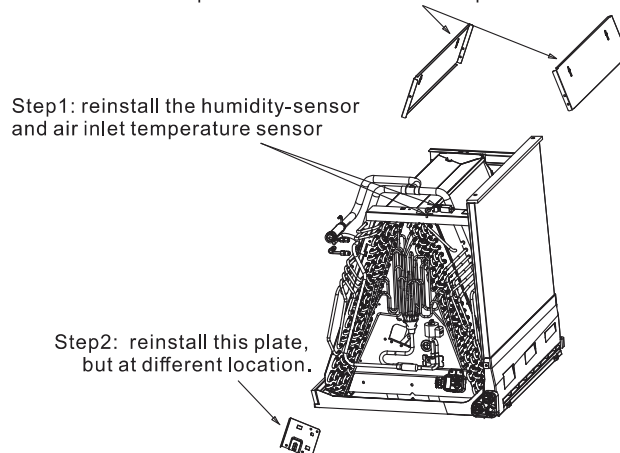

Fig. 5
(5) Install the removed Ti (Air inlet temperature sensor) and Humidity sensor. Meanwhile, add two flow diversion plates (which are got from the distributor or dealer of Hisense.). (Refer to Fig. 5)